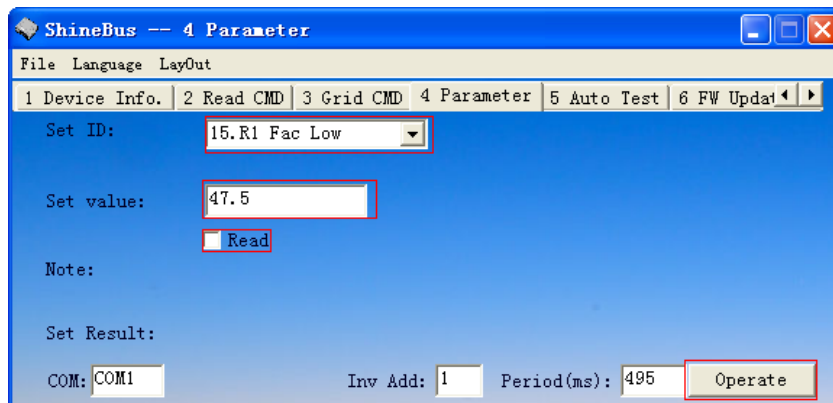

Fig.4.6.4
3. Check whether the limits are complied with local grid standards. If not, please reset the limits by ShineBus. Fill Corresponding values in "Set value" field, not selected option "Read", and click button "Operate" to set AC frequency limits one by one. Example as Fig.4.6.4, related values refer to Table 4.6.1.